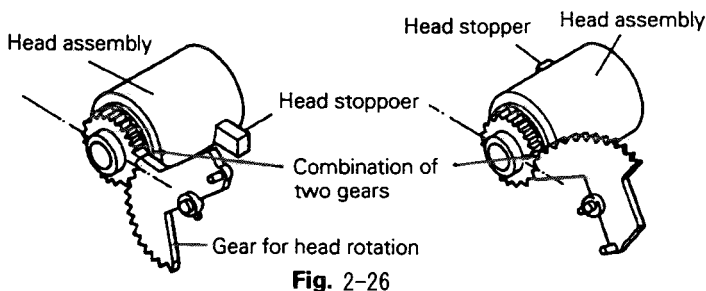

Fig. 2-26
2. For setting two gears for head rotation, combine ① and ② parts as shown in the figure into slide plate for head rotation.
3. Following these main points in Fig. 2-26, proceed with the head gear and the gear for head rotation.